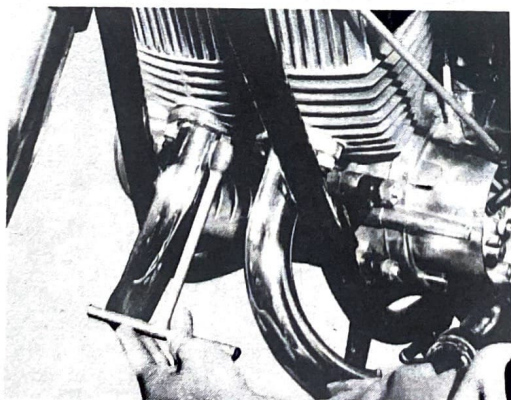

Fig. 4-1-2
3. Remove the exhaust pipe. (Figs. 4-1-2 and 3)